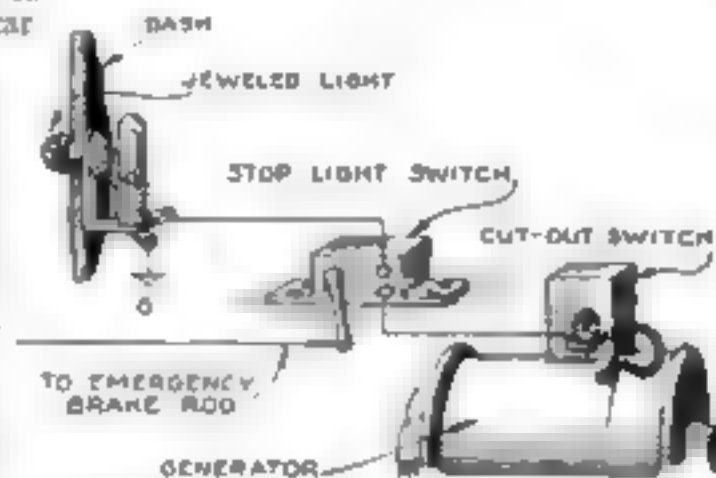

Fig. 3 Emergency brake indicator light, hooked to the generator, is on only when engine runs.
POPULAR SCIENCE MONTHLY awards each month a prize of \$10, in addition to regular space rates, for the best idea sent in for motorists. This month's prize goes to Archie Amos, Fort Wayne, Ind. (Figure 3). Contributions are requested from all auto mechanics.
**H**ERE is an emergency brake indicator light with a novel feature. The ordinary method of hooking up such a light has one serious defect. If you forget to turn off the light when you leave the car the light may run down your battery. By taking the current supply from the generator instead of from the battery wiring the light will burn only while the motor is running and the emergency brake is set. The wiring is shown in Fig. 3. A jeweled radio indicator light or any other small light fastened to the dashboard of the car will serve the purpose.
Fig. 3 shows hose attached to long handled scrubbing brush and used for convenient cleaning of car top.